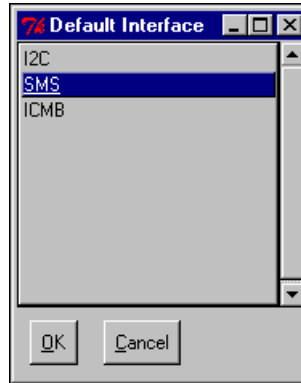

Figure 7-16. Default Interface Dialog Box
- **Default Interface ...**—Presents a dialog box for selecting the default target interface. This dialog lists all open interfaces. Clicking on an item in the list selects that interface. Clicking **OK** makes the selected interface the default interface. The result appears in the status bar on the main window. Figure 7-16 shows the **Default Interface** dialog: